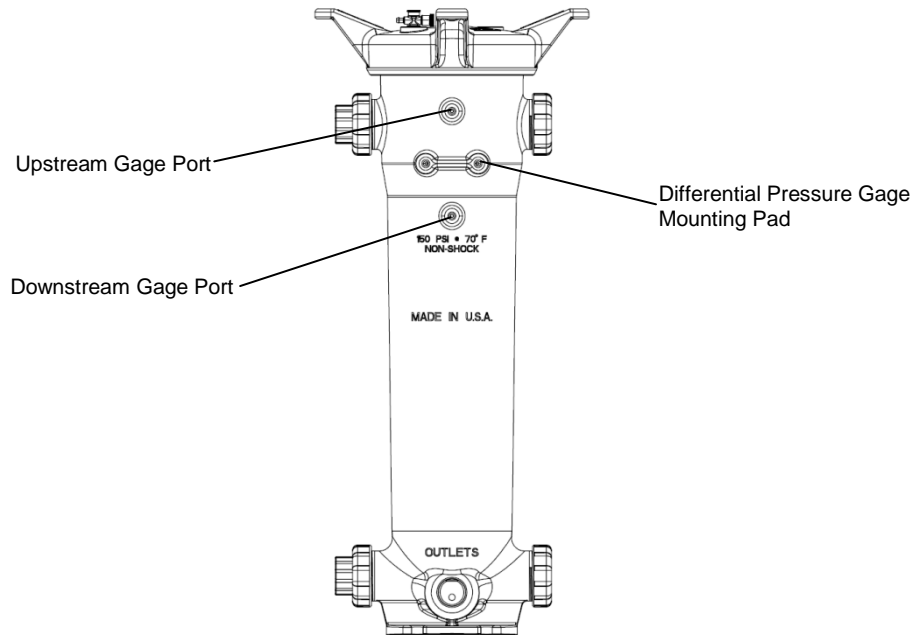

Fig. 2: Differential pressure gauge ports
- 1.4.1.2 Remove threaded pipe plugs from upper and lower differential pressure ports (if vessel provided with drilled and tapped differential pressure ports). (See fig. 2.)